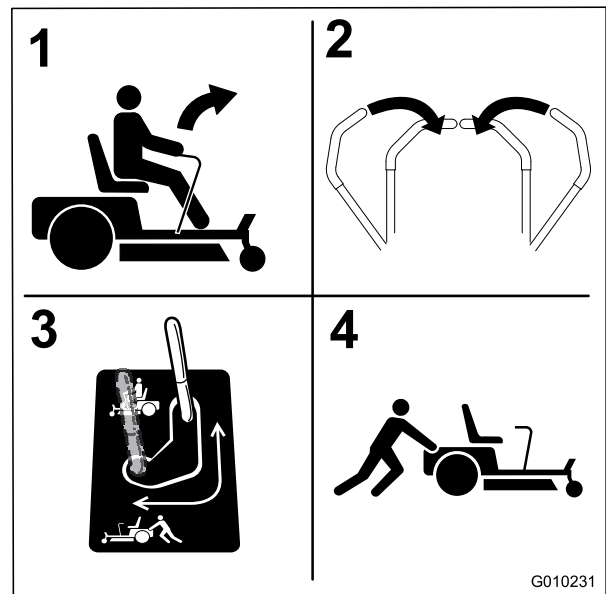

Figure 32
4. Move the bypass levers rearward and then down to lock them in place as shown in Figure 32 to disengage the wheel motors. Repeat this on each side of the machine.
Move the bypass to the position for operating the machine (Figure 32) to engage the wheel motors.